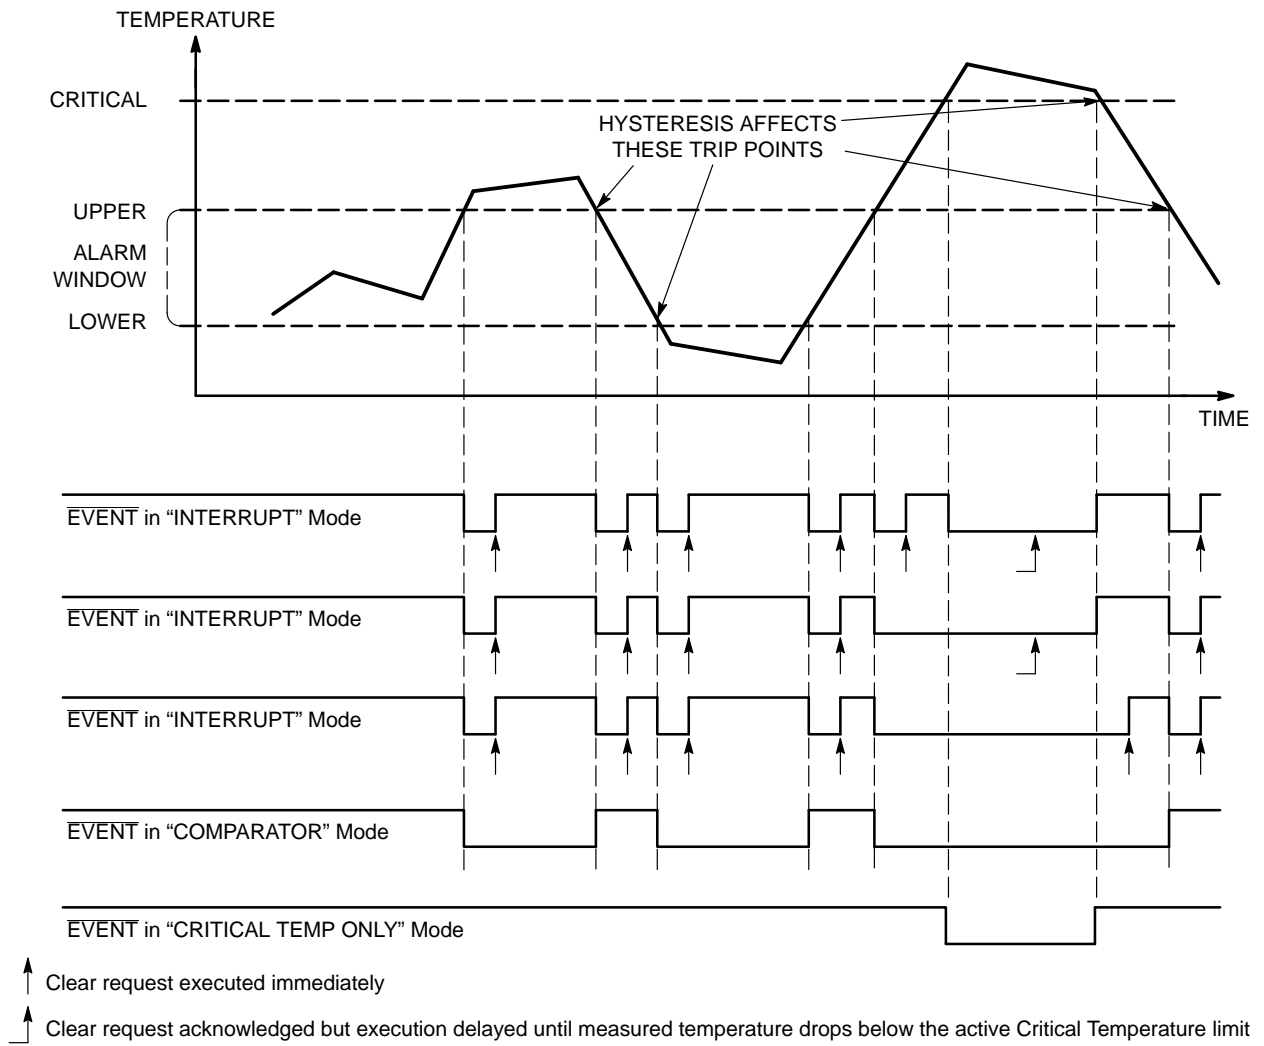

Figure 33. Event Detail
- 16. Writing a '1' to this bit clears an event condition in Interrupt mode, but has no effect in comparator mode. When read, this bit always returns 0. Once the measured temperature exceeds the critical limit, setting this bit has no effect (see Figure 33).
The  $\overline{\text{EVENT}}$  output reacts to temperature changes as illustrated in Figure 33, and according to the operating mode defined by the Configuration register.